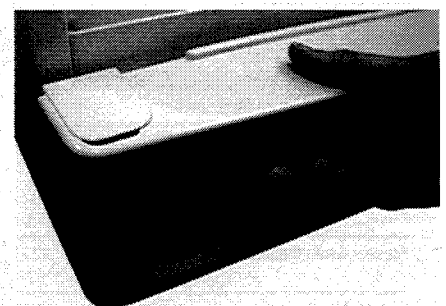

Fig 6
7. Place small end of foot adjustment tool in slot, twist as shown (Fig 6) and pull top of air grille towards you to release blanking piece from left. Refit blanking piece on right and refit air grille, pivot from bottom and push top forward until air grille clicks into place.